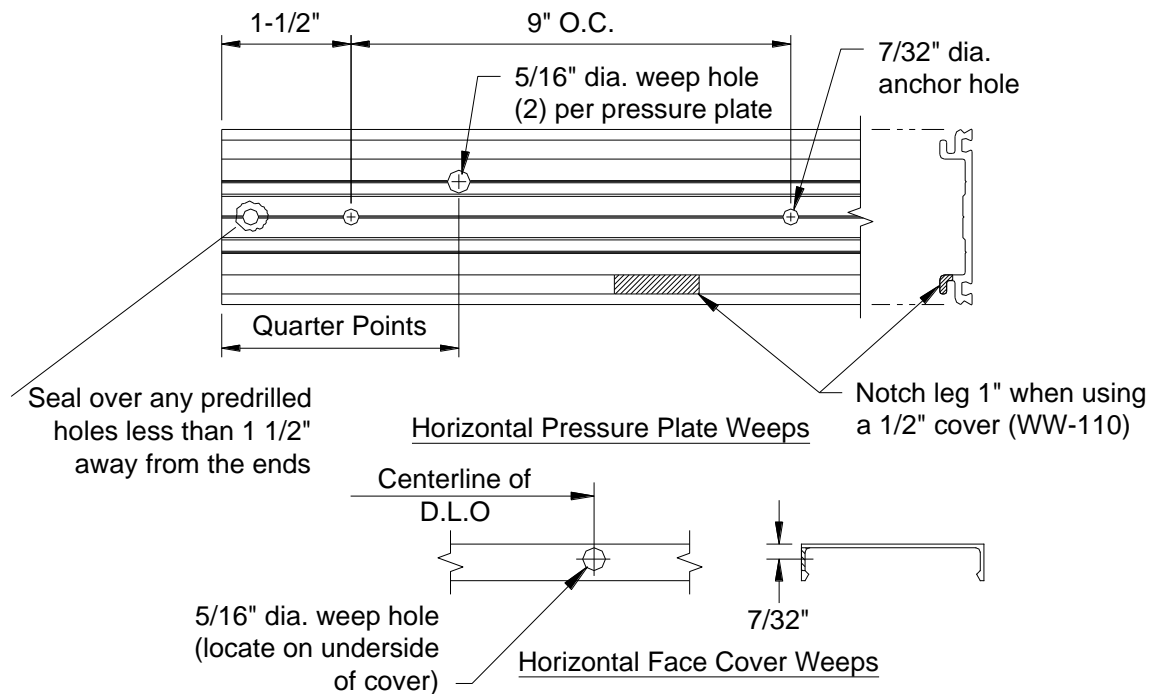
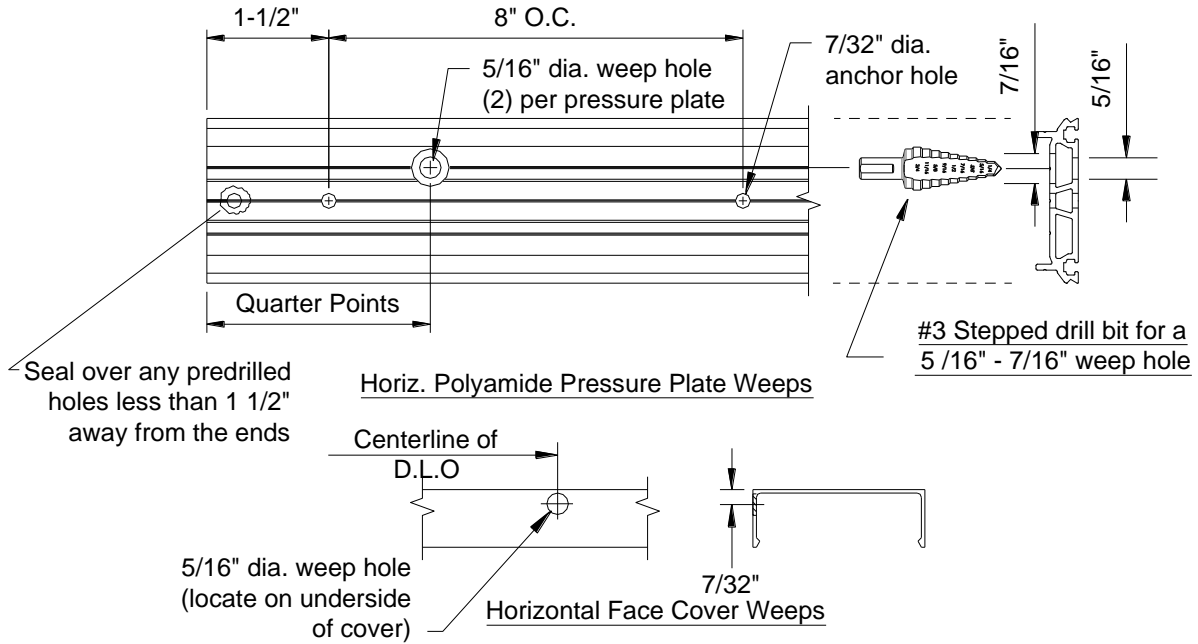

Figure 5: Horizontal Weep Holes (aluminum pressure plate)
Figure 6: Horizontal Weep Holes (polyamide pressure plate)
- 4.1 Drill 5/16" diameter weep holes at 1/4 points in the horizontal pressure plate. **See FIGURE 5** for aluminum pressure plate and **FIGURE 6** for polyamide pressure plate. Horizontal pressure plates at SSG mullions will have weep holes located at 1/4 points of each DLO and will span multiple openings, but not to exceed 3 lies.
- 4.2 Drill 5/16" diameter weep hole at the center of each DLO in horizontal covers. **FIGURES 5 & 6.**